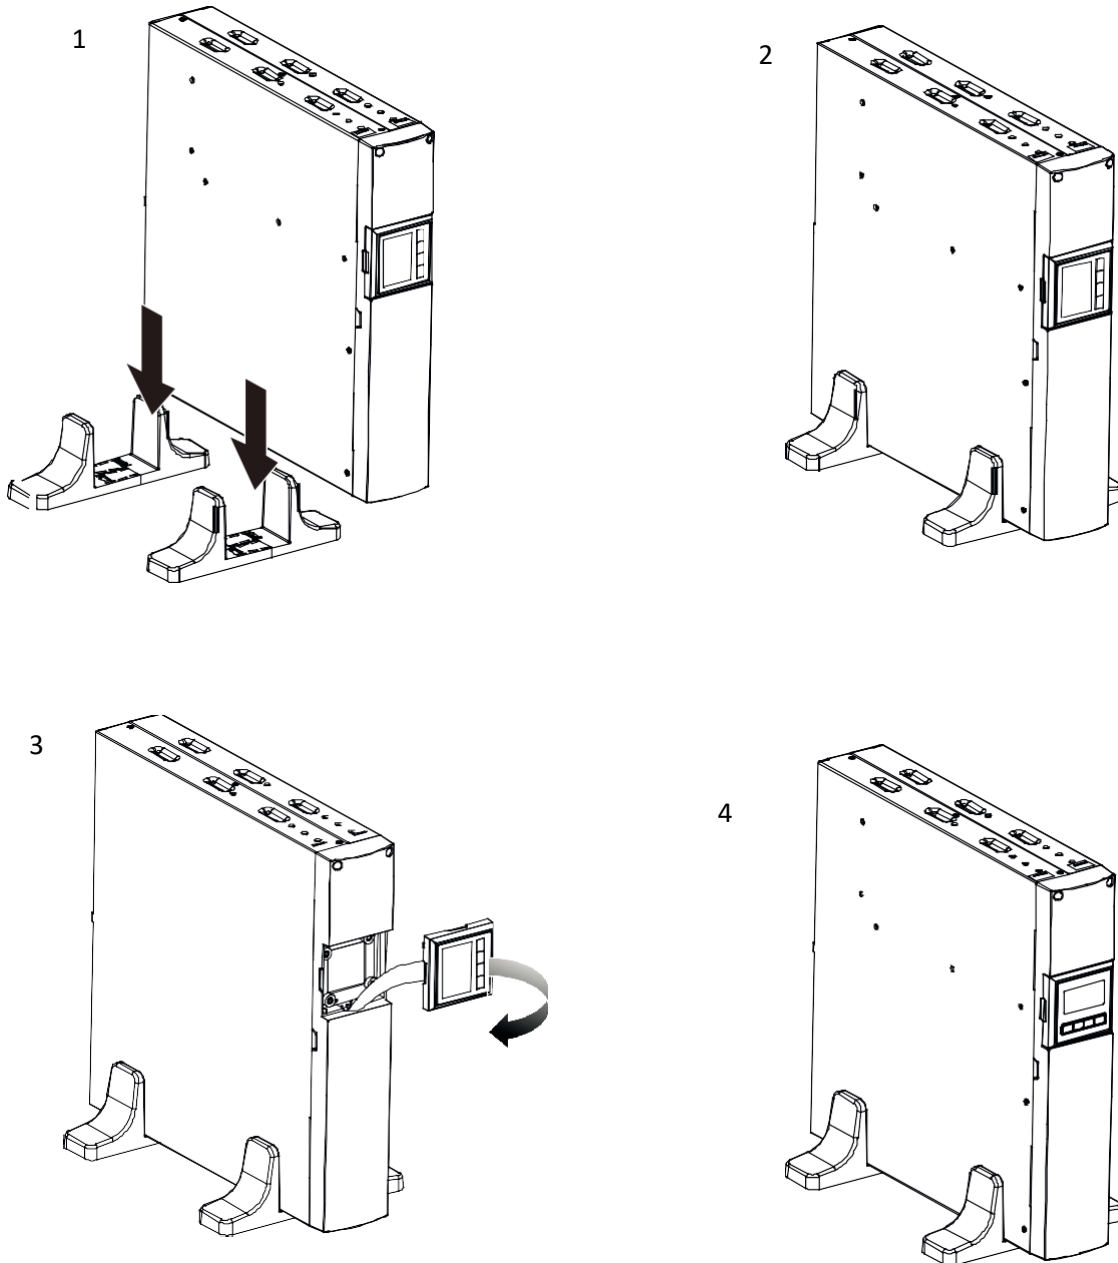

Figure 2: Installing the UPS in a vertical position
2. Place the two stands on a horizontal surface (see figure 2).